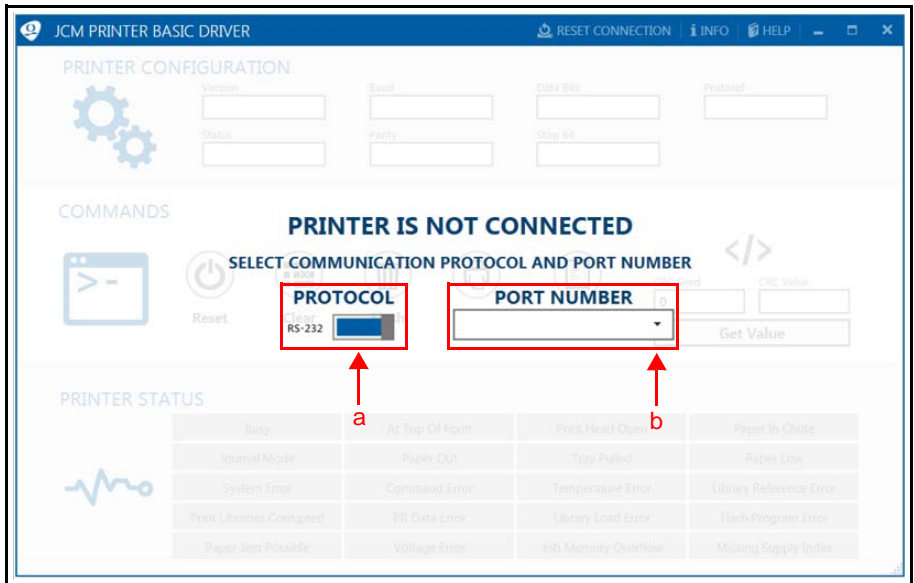
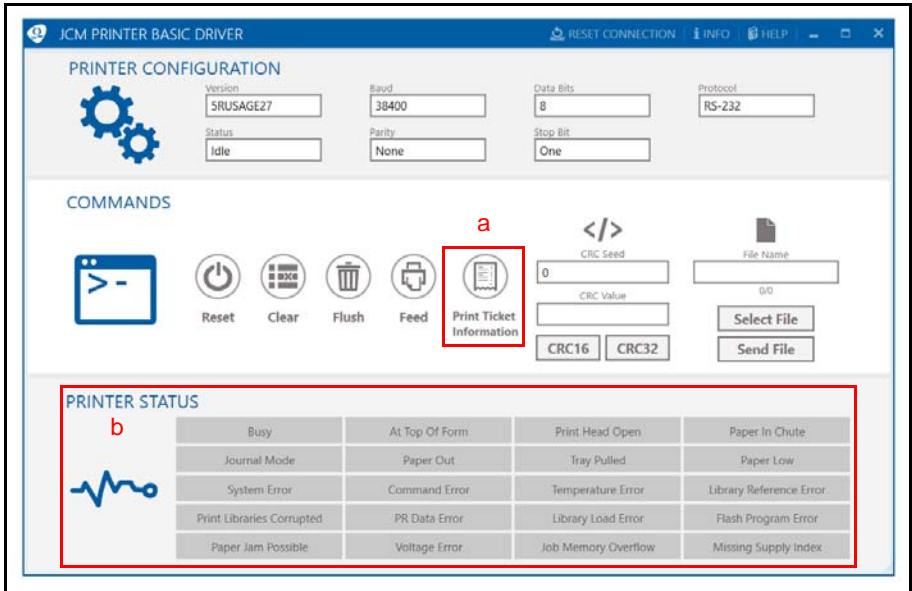

Figure 10 JCM Printer Basic Driver Opening Screen
Figure 11 JCM Printer Basic Driver Printer Status Section
4. From the PC Desktop, double-click on the JCM Printer Basic Driver icon. The JCM Printer Basic Driver Opening Screen is displayed (Figure 10).
5. Click to select the Communication Protocol - either RS-232 or Netplex Communications (Figure 10 a).
6. Click to select the COM Port Number where the GEN5 Printer is connected (Figure 10 b). The JCM Printer Basic Driver Printer Status Section is displayed (refer to Figure 11 on page 12).
7. Print Ticket Information (Figure 11 a).
8. Check for an Active condition in the Printer Status section (Figure 11 b). An Active condition for a Sensor or Printer Error (e.g., Paper Low or Paper Out) will be displayed as a **RED** highlighted box (not shown). When the Active condition is cleared, the **RED** highlight disappears from the Printer Status display.